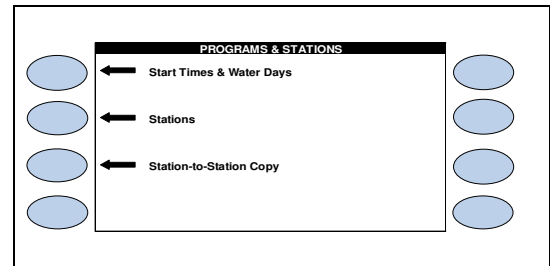

Figure 8
This will take you to the **PROGRAMS & STATIONS** screen. (Figure 8).
13.  Press the **STATIONS** Menu key. (Figure 8).